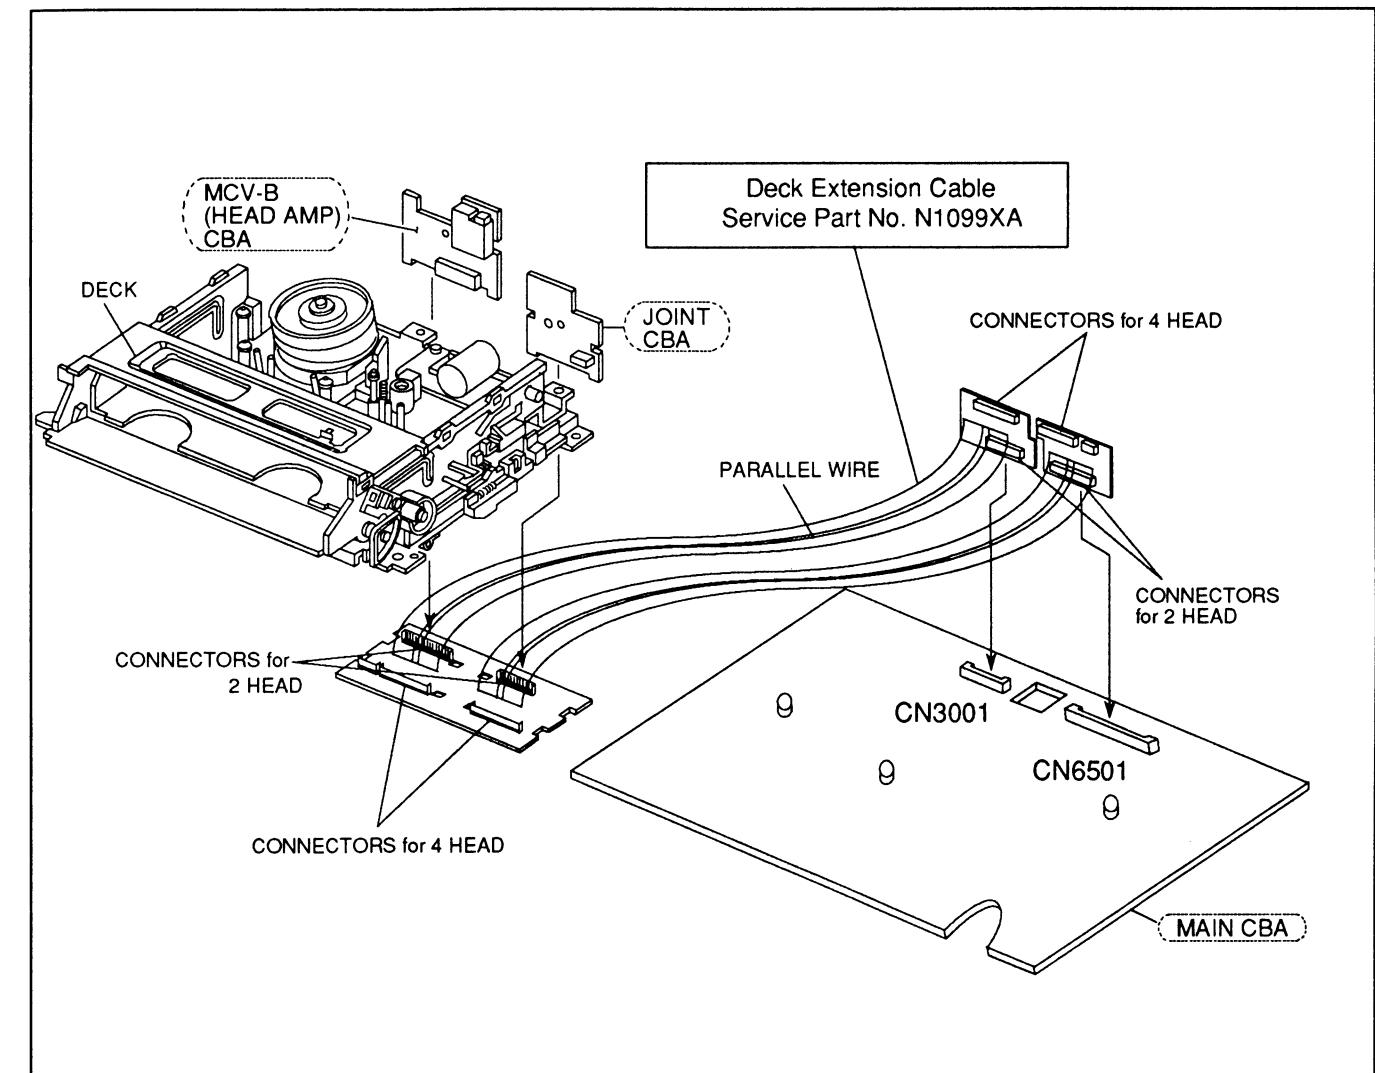

Fig. 1
- (2) Connect deck mechanism assembly and Main CBA by using the Deck Extension Cable as shown in the Fig. 1.
Deck Extension Cable can be used for 2-head models and 4-head models. This unit is a 2-head model. Make sure to use correct connectors as specified in the Fig. 1.